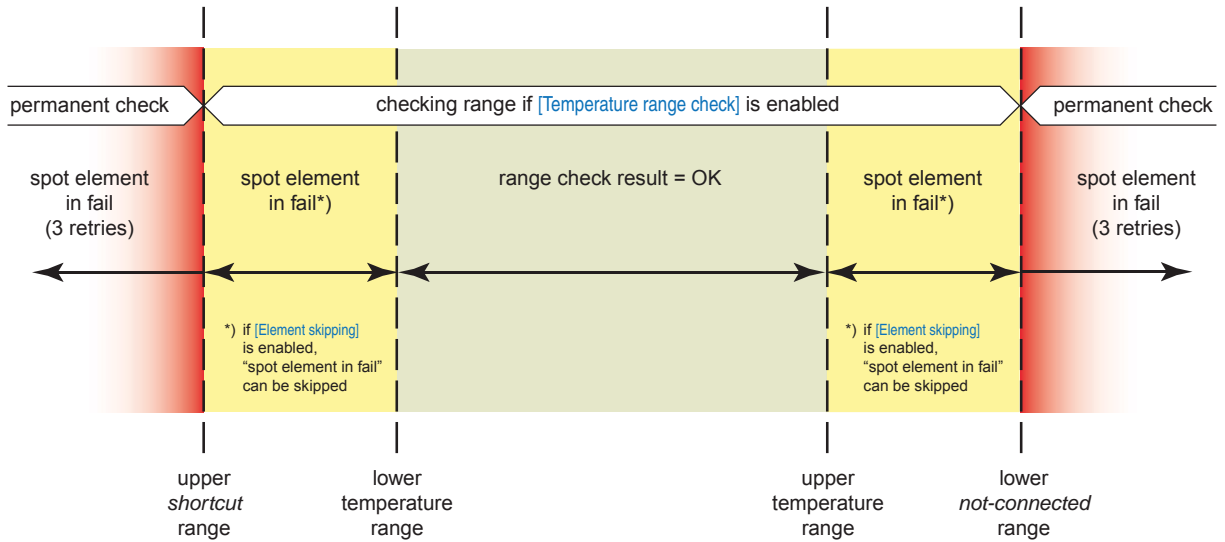

FIGURE 6-41
- A *temperature-range check* can be turned on. In this case, if spot elements are out of range, a fail state results (if not skipped), see FIGURE 6-41.